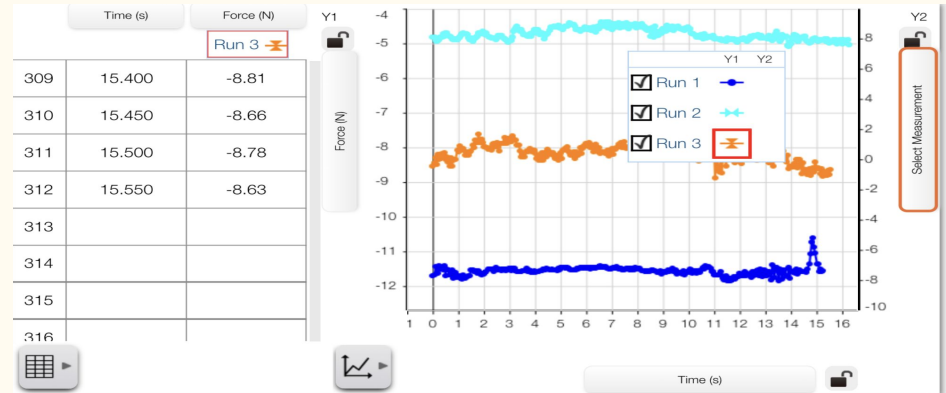

Fig 8 Shows the forces on the Pratt Truss during testing
- Forces were recorded on the app at 3 different locations. (see fig 8)